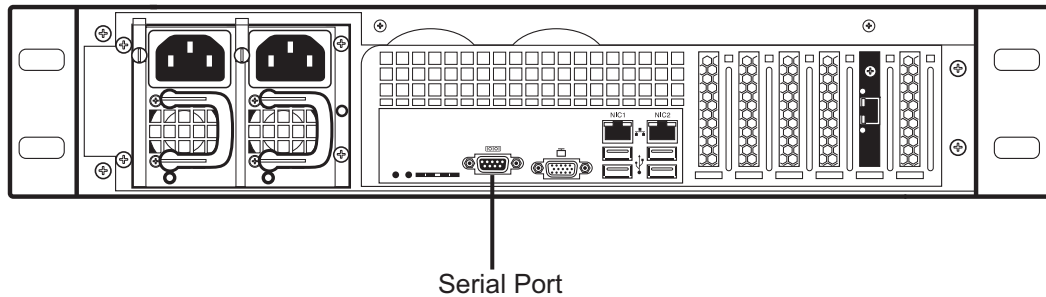

Figure 3.1 Computer to Tmedia VoIP Gateway Serial Port Connection
1. Connect a CAT5 RJ-45 (male-male) cable (supplied with unit) between the com port of your computer and the serial port (labelled 10101) of the Tmedia VoIP gateway as shown in figure 3.1 on page 40. See Section A.2 on page 49 for a RJ-45 console wiring diagram.